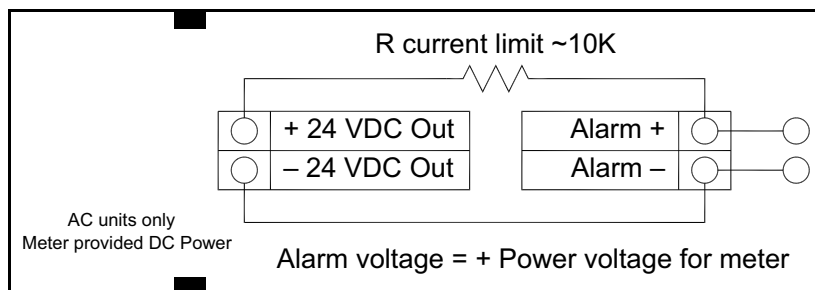

Figure 47: Isolated Alarm Output Using Meter Provided Power Supply
- For AC powered meters only, use the internal 24 VDC power supply (see *Figure 47 on page 45*). Use this option if the voltage of the alarm output is the same as the voltage supplied to the circuit.